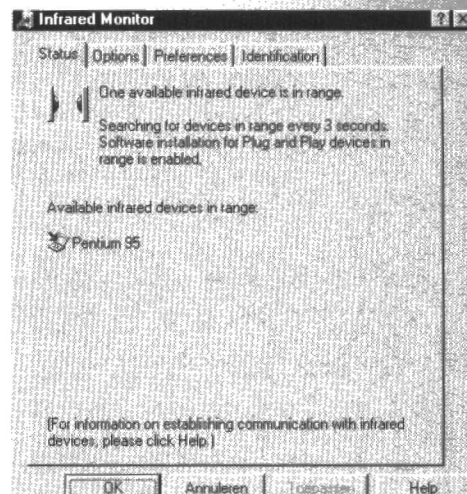

Figure 8. The IrDA Monitor window.
Having connected the interface (normally, you would use COM2, if available, of course), you may run *setup.exe* in the *msir20* directory. This launches a Wizard which guides you through the installation steps for the IrDA driver. Select *Manufacturer: Temic* from the menu, the type *TOIM3232* will then automatically appear in the *Models* window. In the next windows you select the COM port to which the IrDA interface is attached. The following menus indicate virtual ports via which the IrDA interface may be accessed by Windows programs. Select the default ports COM5 and LPT3 (remember, they are *virtual*). After going through two more menus, the installation is finished. The IrDA driver symbol (Figure 7) may then be found back in the Control Panels window (you may have to do a *Refresh* from the *View* menu). The IrDA interface is actuated by double-clicking on the symbol. The Infrared Monitor window appears (Figure 8) which indicates the status of
Every three seconds, the program and the interface look for other IrDA devices within range. The green LED lights on the board when the IrDA interface transmits. Similarly, the yellow LED lights when a signal is received. As soon as another IrDA interface is spotted, the name (ID) of the associated device (computer, printer, etc.) appears on the status screen. As illustrated in Figure 8, we located (within range) a computer having the ID *Pentium 95*.
If everything is okay so far, the IrDA interface may be employed to convey data with the aid of a communications program which runs under Windows 95. Whatever program you may use, be sure to select COM5 or LPT3 as the virtual communication port, this will automatically direct data to/from the IrDA interface. Activity is then indicated by beeping sounds and the IrDA device scanning symbol which appears in the right-hand bottom corner of the display. The scanning symbol (as shown in the top left-hand corner of Fig. 8) also indicates that data is being transmitted. Click on it to pop up the *Infrared Monitor*.